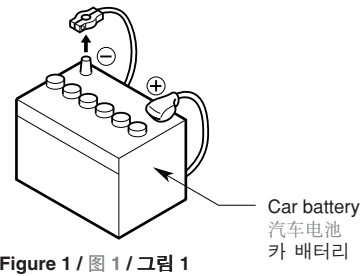

Figure 1 / 图 1 / 그림 1
3. Be sure to disconnect the battery “⊖” terminal before starting. This is to prevent short circuits during installation (Figure 1).
3. 开始之前请务必断开电池的“⊖”端子，以免在安装中造成短路。（图 1）